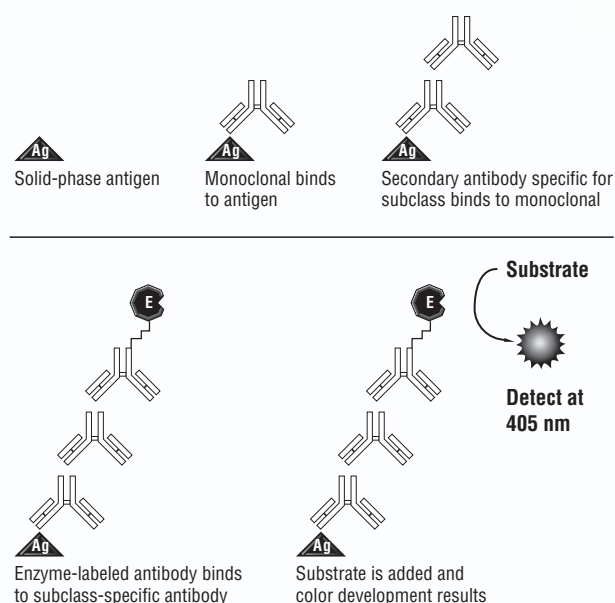

Figure 9. Antigen-dependent monoclonal antibody isotyping.
Sufficient reagents and specific antibodies are supplied in each kit to perform one of two basic types of screening procedure. In the antigen-dependent method (Figure 9), antigen is coated in ELISA plates wells. The test hybridoma supernatant is then added to the wells and allowed to bind to the coated antigen. The antigen-bound monoclonal antibody is detected first with subclass-specific rabbit anti-mouse IgG (a different subclass-specific antibody in each well), then with an enzyme-conjugated anti-rabbit antibody. The antigen-independent screening method is used when soluble forms of the antigen are difficult to obtain. ELISA plate wells are coated with a general goat anti-mouse antibody, which serves to capture the test monoclonal antibody from the hybridoma supernatant. Finally, the captured monoclonal is detected with specific and secondary antibodies, as in the antigen-dependent method.
The isotyping ELISA is a special type of ELISA in which the specificity of antibodies is used to determine the isotype of monoclonals. Pierce offers two ImmunoPure® Mouse Monoclonal Antibody Isotyping Kits: Horseradish Peroxidase (HRP)/ABTS and Alkaline Phosphatase (AP)/PNPP. There are two basic types of screening procedures for monoclonals. Antigen-dependent screening involves coating the antigen on a microplate. The hybridoma supernatant is then added, and the monoclonal is detected using an enzyme-conjugated antibody (see Figure 9, previous page). The antigen-independent screening method is used when soluble antigens are difficult to obtain. ELISA plates are coated with an antibody to mouse immunoglobulin. This antibody then serves to capture the monoclonal antibodies from the hybridoma supernatant. The presence of positive clones is proven with enzyme-conjugated anti-mouse immunoglobulin.